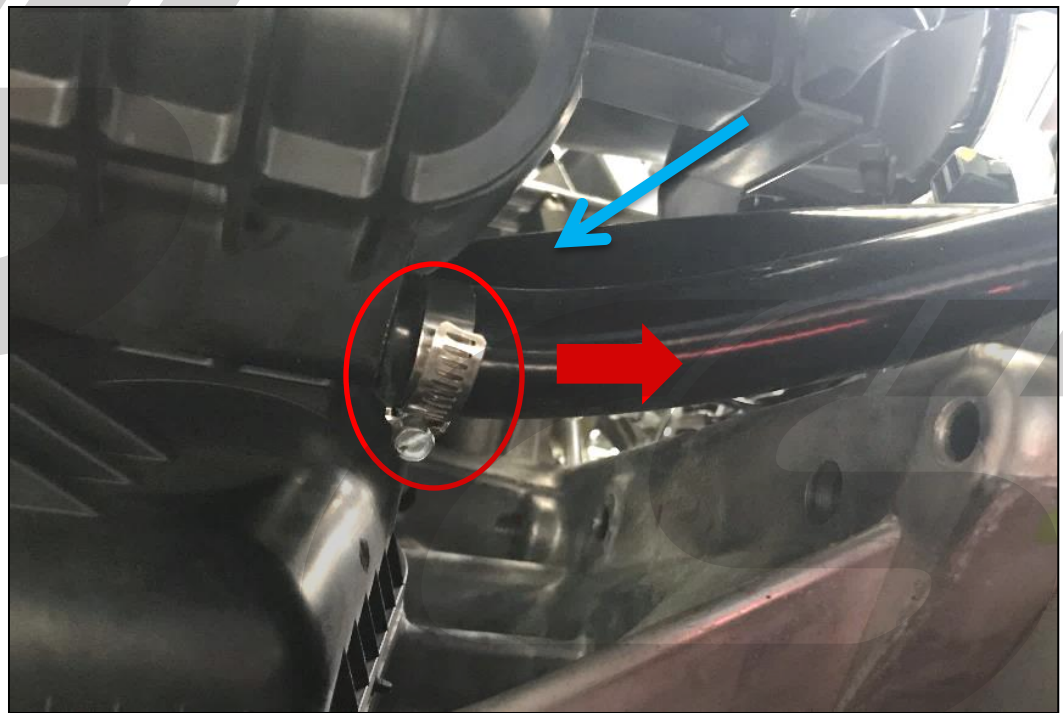

Figure 3a
- a) **Remove the existing OCC hose.** Loosen the worm gear clamp & remove the existing OCC hose from the intake manifold port. Shown in **Figure 3a** in **red**.
- c) **Remove the upper hose from the PCV valve** (hose shown with **blue arrow** in **Figure 3a**). Slide the supplied clamp over the end of the hose.